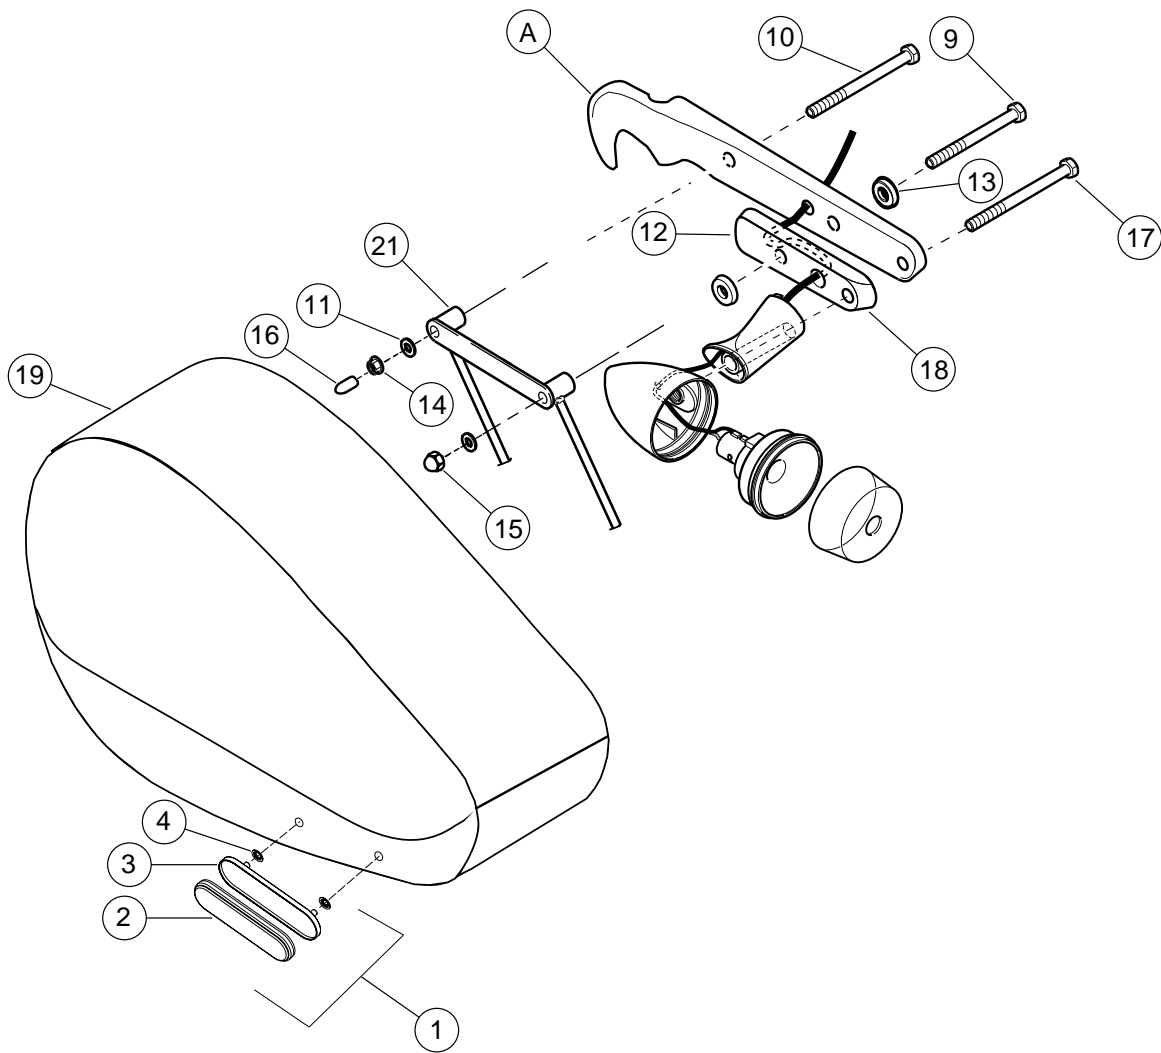

Figure 4. SPORTSTER SADDLEBAG KITS
See Figure 4 and Table 1.
1. See Figure 4. Using a small piece of tape, tape spacer (13) from kit to frame over hole from where the rear turn signal stud was removed.
4. See Figure 4. From the inside of the fender, insert a 5/16-18 x 4.1 inch bolt (17) through the hole at the narrow end of the rear most hole in fender, through fender support and cover, and out through the hole at the narrow end of the rear relocation pad (18). Place Loctite 243 (blue) on the threads of the mounting bolt. Loosely arrange turn signal housing and stalk on mounting bolt, running the lamp wire through the center hole in rear relocation pad, along channel on the inside of the pad and through the third hole from the rear in fender support cover.
1. See Figure 4. From the inside of the fender, insert a 5/16-18 x 3.75 in. bolt (9) through forward most hole in fender, through fender support and cover. Install a 5/16-18 x 3.375 in. bolt (10) through the second hole from the rear of the fender, fender support, cover, and relocation pad.
2. Install saddlebag onto the 5/16-18 x 3.75 in. (9) and 5/16-18 x 3.375 in. (10) bolts. Install the washers (11) onto the bolts and thread the flange locknut (14) onto the front bolt and the acorn nut (15) onto the rear bolt.
1. See Figure 4. Measure approximately 1-1/2 in. (38 mm) from the bottom edge of the saddlebag. Orient the reflector horizontally and carefully center the reflector mount between the straps of bags with straps or locate it at the rearward portion of bags without straps. Mark hole location.
3. Install reflector mount (3) on saddlebag using two pushnuts (4).
4. Remove adhesive backing from reflector (2) and install on mount.